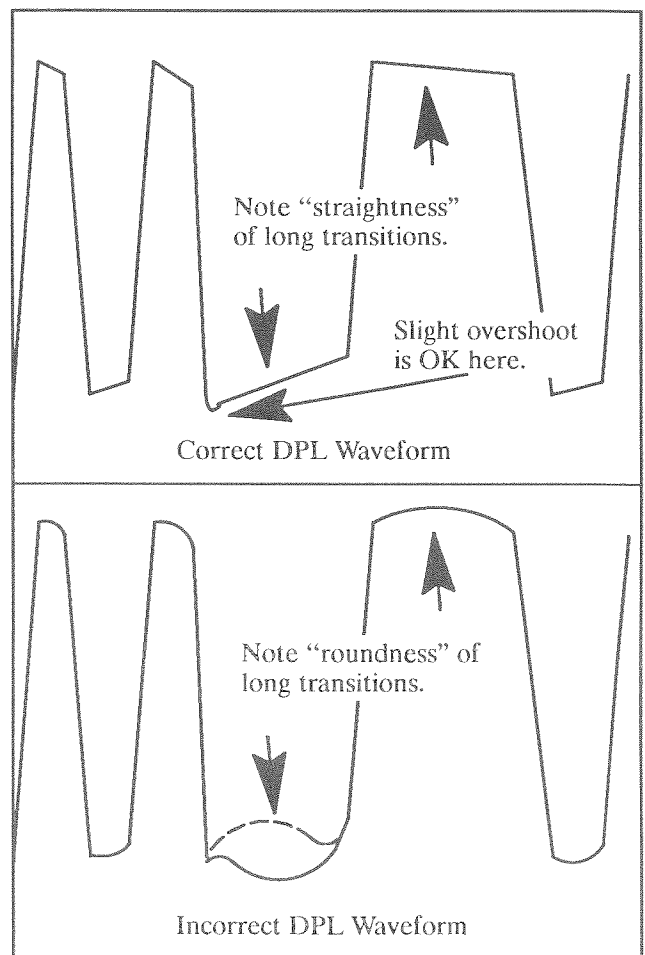

Figure 1. Modulation Compensation Waveforms
Step 5. Examine the waveform for straightness of the long transitions. These long transitions should be as straight as possible. The transition may have a slope, but it should be a constant slope. See Figure 1.